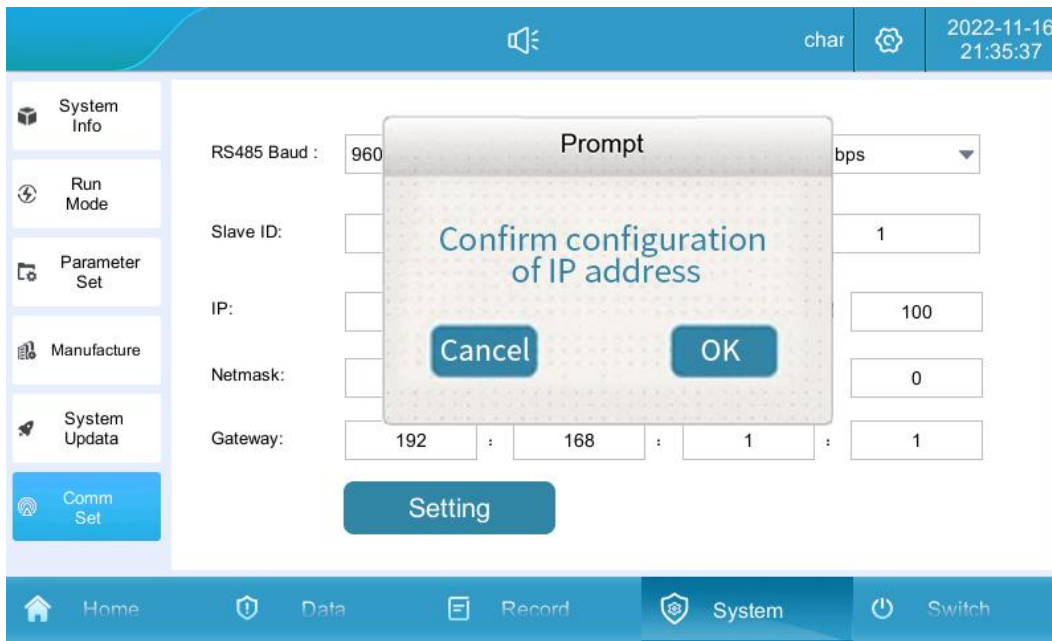

Figure 5-6 IP Address Configuration Screen
- 1、Click "System" -> "Run Mode" mode to enter Figure 5.6.